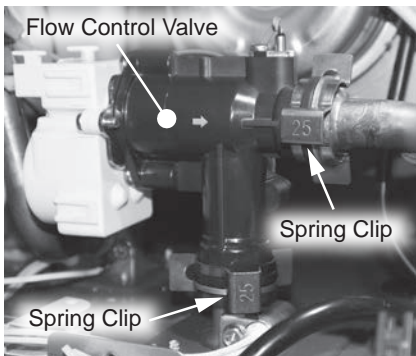

Figure 99 - Locating and disconnecting flow control valve
- 15** Locate the flow control valve in the water heater as shown in Figure 99.
- 16** Remove the two spring clips (size 25) securing the flow control valve to the piping system. Place the spring clips aside in a safe place for reinstallation. See Figure 99.
- 34** Locate the two (2) spring clips previously removed in **Step 16**. Install spring clips to flow control valve, securing it to piping connections. See Figure 99. Verify water connections are tight and will not leak.